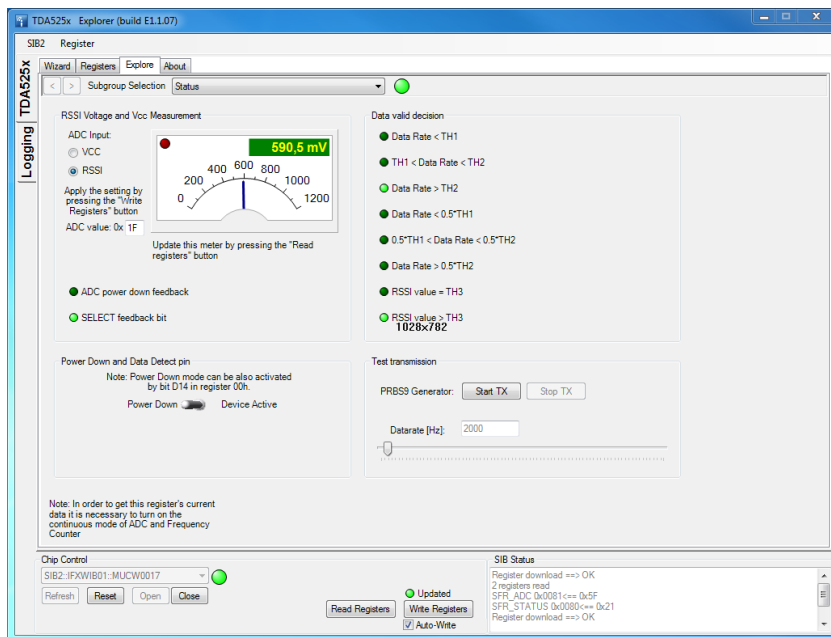

Figure 10: TDA525X Explorer, Explorer tab
- Furthermore you can read the **SFR Status register** and **SFR ADC register** at the **Explore**-tab. See the **RSSI Voltage and Vcc Measurement**- and **Data valid decision**-fields in the **Explore**-tab (see Figure 10).